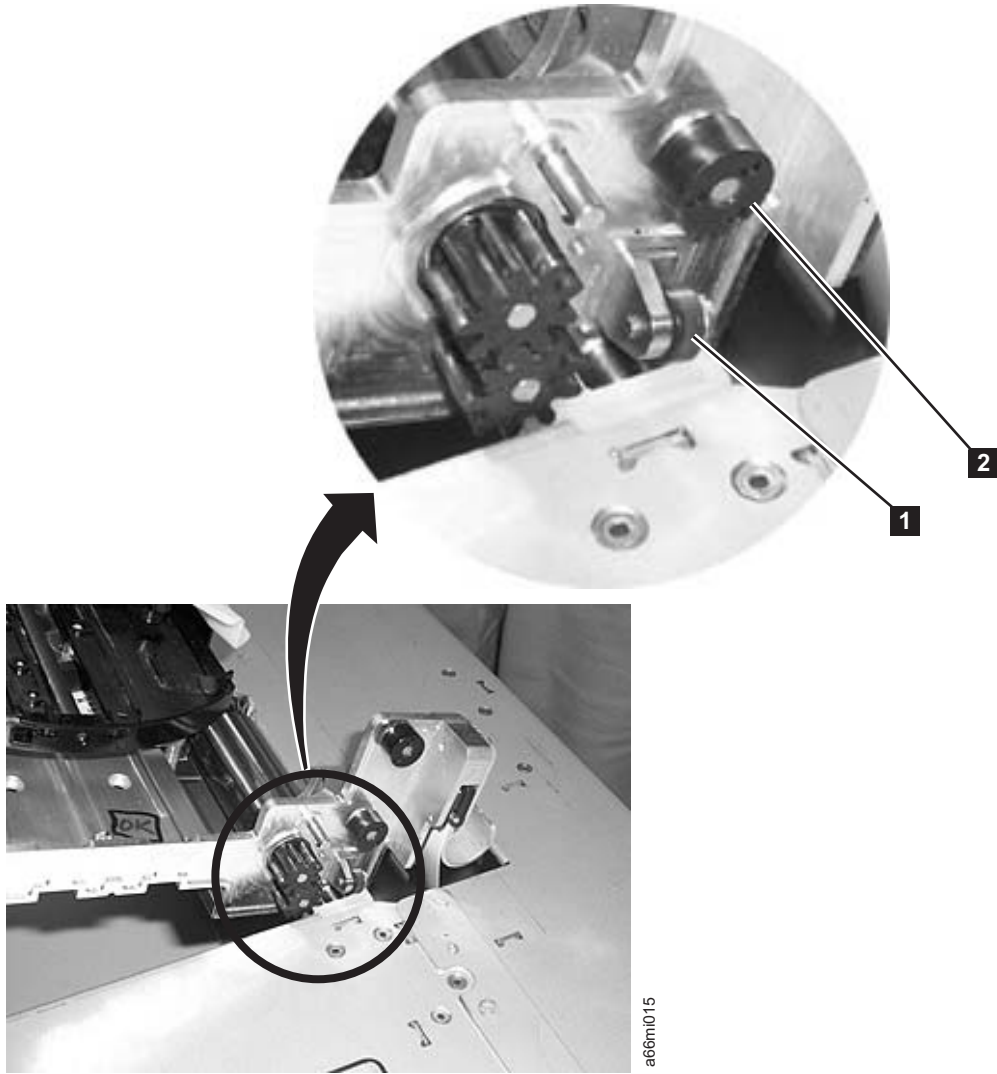
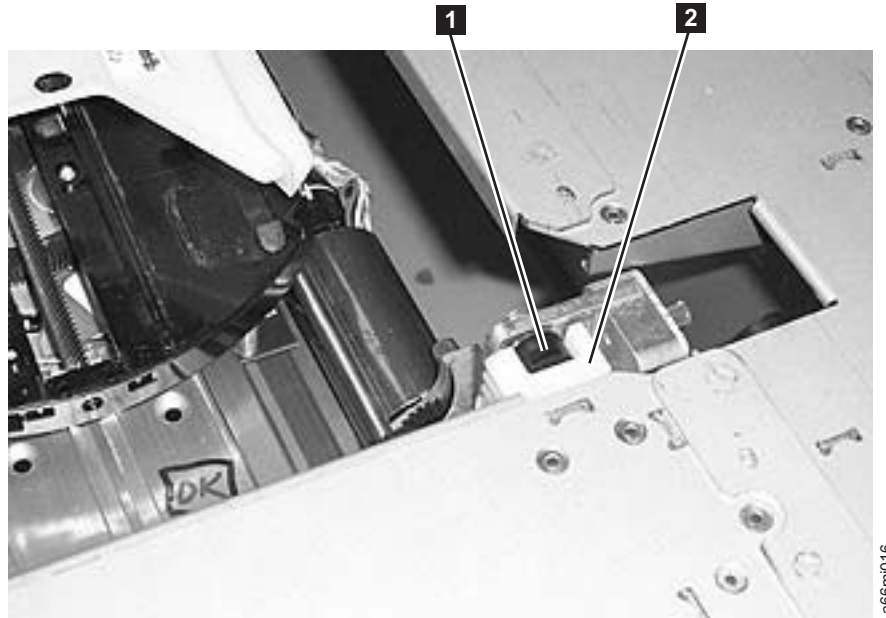

Figure 8-46. Guide rollers on Y-axis/Picker Assembly
Figure 8-47. Y-axis/Picker Assembly rollers inserted in gear rack track
6. Lower the Y-axis/Picker Assembly by tilting its gears at a 45° angle onto the top of the front and rear gear racks (see Figure 8-46 on page 8-48 and Figure 8-47 on page 8-49). **BE VERY CAREFUL TO START BOTH Y-AXIS/PICKER ASSEMBLY GEARS TOGETHER TO ENSURE THE Y-AXIS/PICKER ASSEMBLY IS LEVEL.** After lowering the Y-axis/Picker Assembly a few teeth, verify that the Y-axis/Picker Assembly is level with the library chassis. If it is not level, remove the Y-axis/Picker Assembly and reinsert.